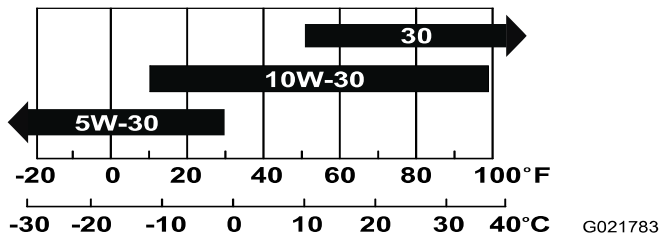

Figure 9
**Note:** Use SAE 10W-30 for general use. You can use the other viscosities shown in the chart when the average temperature in your area is within the indicated range (Figure 9).